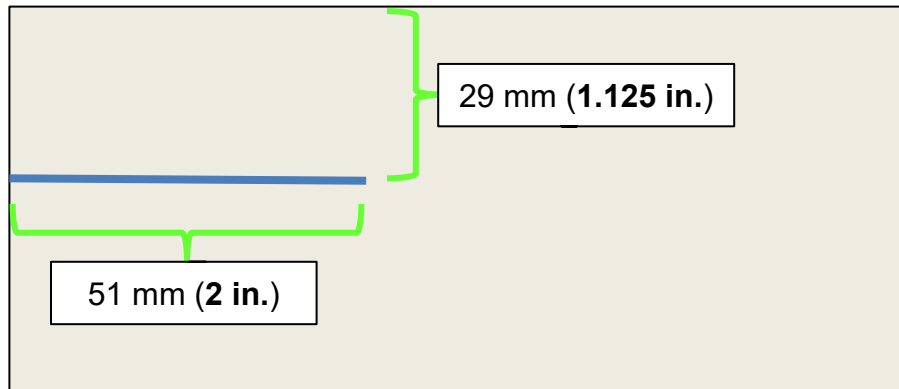

Figure 15
17. On the foil side of one (1) of the four (4) Butyl Patches, measure and mark a line, as shown in Figure 15, and then using scissors cut along the line.